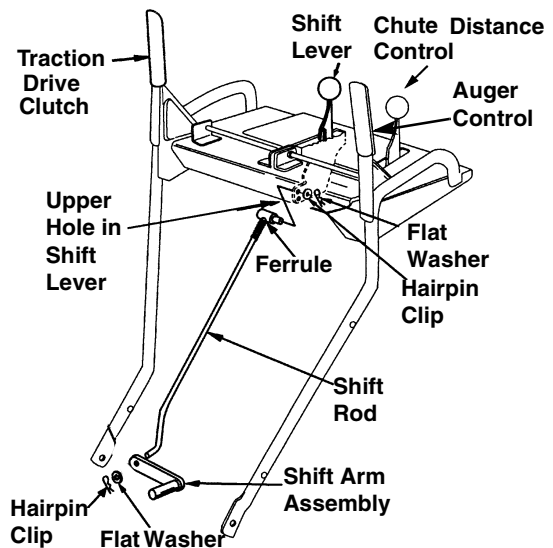

Figure 11
- Place the shift lever in the sixth (6) speed.
- Place the bent end of the shift rod into the hole in the shift arm assembly. See Figure 11. Secure with 5/16 flat washer and hairpin clip from the hardware pack (group D on page 5).
- Secure the ferrule to the shift lever with another 5/16 flat washer and hairpin clip from group D of the hardware pack. See Figure 11.